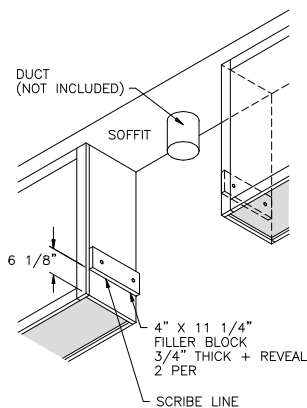
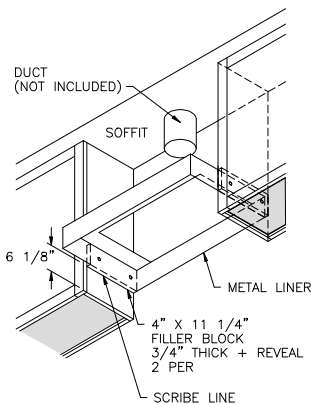

Figure 5
Figure 6
2. Place bottom edge of 3/4" x 4" x 11 1/4" long wood filler block along scribe line. Make sure filler block is tight against back wall, Figure 5.
3. Use four (4) #8 x 1" screws, supplied, and fasten the two wood filler blocks to adjacent cabinets.
4. Raise liner so bottom is level with scribed lines. Fasten liner to filler block by driving four (4) #8 x 1/2" screws, supplied, through pre-drilled holes (2 per side) in liner, Figure 6.